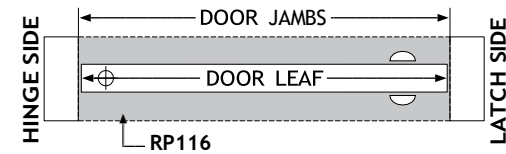

FIG.3
STEP 3 Position RP116 on door sill to suit application. (FIG.3)